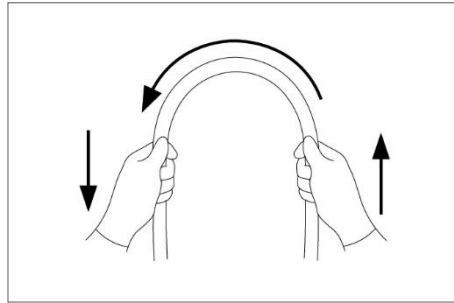

Fig. 3.2
6. Bend the insertion tube of Small Animal Endoscope into a semicircle with both hands. Then, move the hands as indicated by the arrows shown in Fig. 3.2 to confirm that the entire bending tube can be bent smoothly.